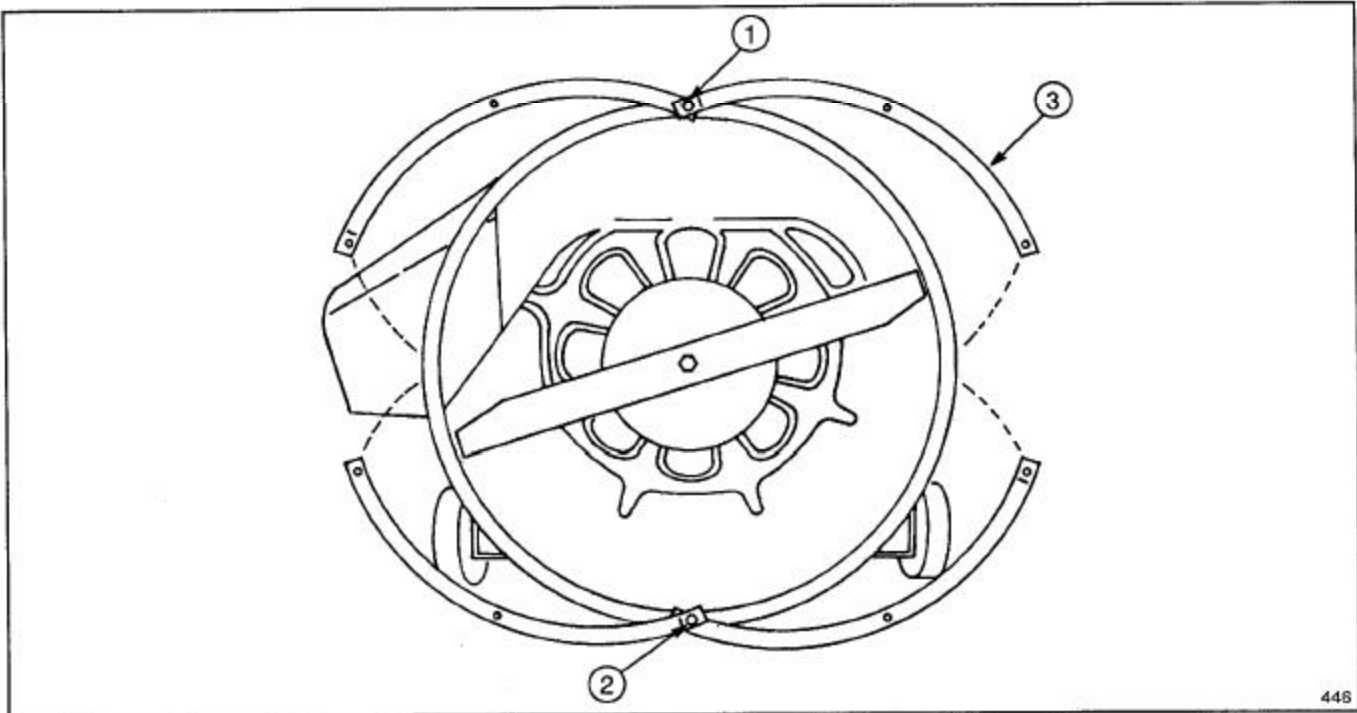
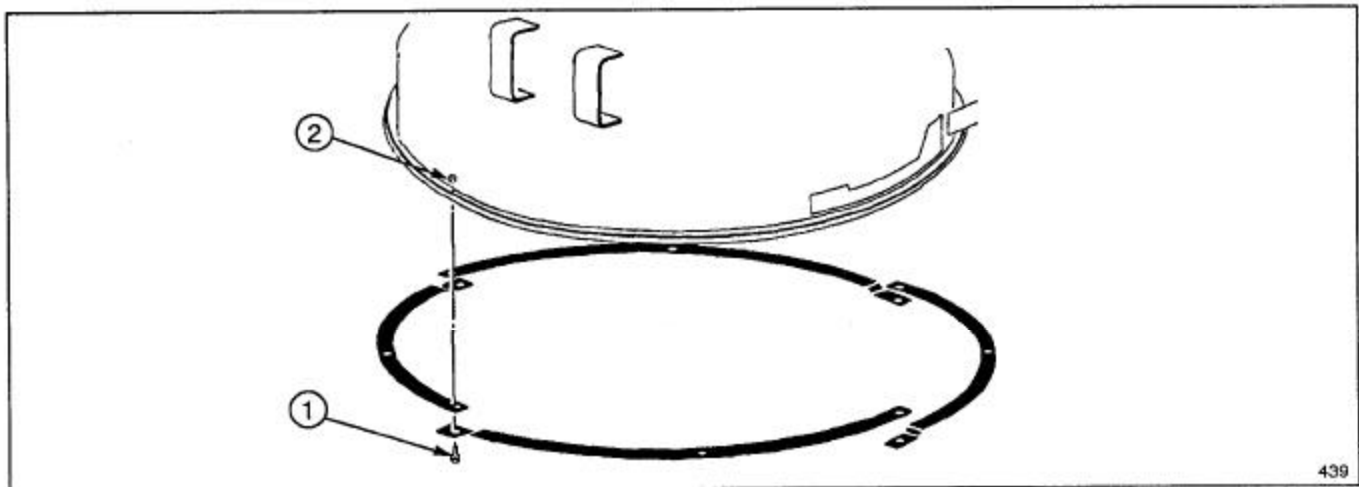

Figure 4
Figure 5
1. Align holes in two deck ring pieces with hole in front center of deck rim (Fig. 4). Loosely fasten ring pieces to rim with a capscrew and lock nut (Fig. 5). Then attach remaining two deck ring
pieces to rear center hole in rim (Fig. 4). Do not tighten lock nuts securely; deck ring pieces should be loose enough to rotate around capscrews.
3. After holes are marked, rotate deck ring pieces out of the way (Fig. 4) and drill six 5/16" (.312) dia. holes in rim of deck.
4. Rotate deck ring pieces back into position, fasten to deck using remaining (6) capscrews and lock nuts (Fig. 5).
5. Tighten (8) lock nuts securely.